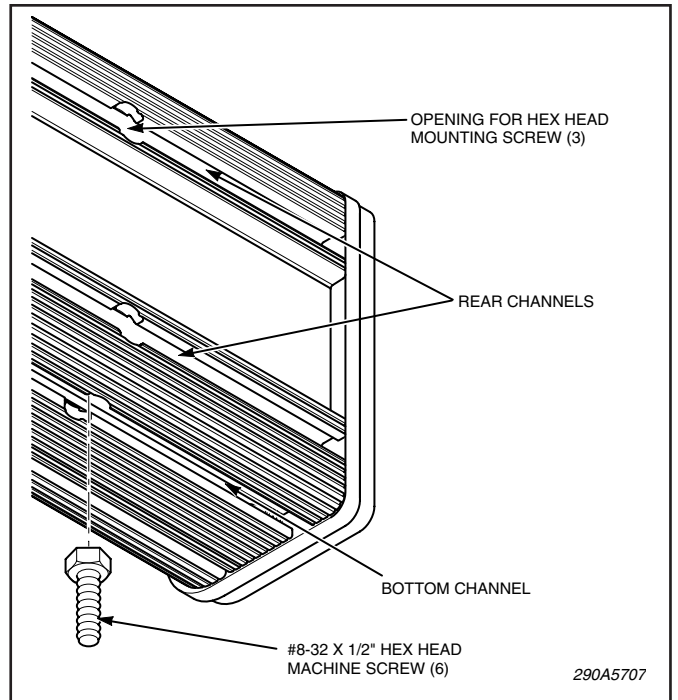

Figure 2.
5. See figure 2. Locate the opening in the specified mounting bolt channels and drop in two #8-32 hex head screws per channel.